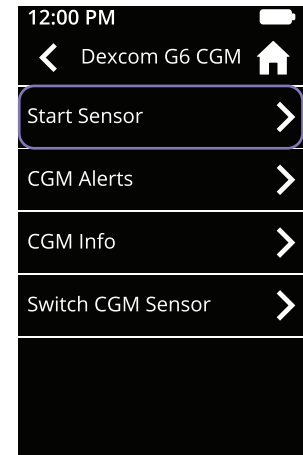

Figure 78
- Return to the CGM menu on your iLet Device. Tap **Start Sensor** (see Figure 78)